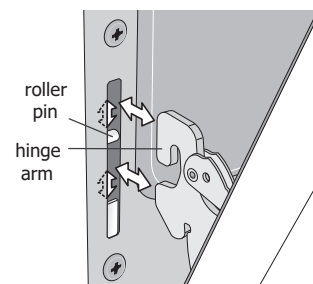

Figure 30: Replacement and location of hinge arm and roller pin
3. Firmly grasp both sides of oven door along the door sides. Do not use the oven door handle (See Figure 30).
4. Close the door to approximately 10 degrees from the door frame (See Figure 30).
1. Firmly grasp both sides of oven door along the door sides. Do not use the oven door handle (See Figure 30).
2. Holding the oven door at the same angle as the removal position, seat the hook of the hinge arm over the roller pins located on each side of the oven door frame (See Figure 30 and Figure 31). The hook of the hinge arms must be fully seated onto the roller pins.